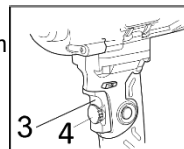

Fig. 4
1. To start the drill, gently squeeze the trigger switch (3) (Fig. 4).
This feature enables you to pre-set the tool for a desired RPM when using the “Lock-On” button feature. The tool speed is adjusted by rotating the “speed control” dial (4) (Fig. 4) clockwise to increase the speed and counterclockwise to decrease the speed. Once you have set the speed you desire, when the switch is completely depressed and the “Lock-On” button engaged, the tool speed will change to the speed you dialed in. To Pre-set a desired RPM, pull the switch back completely and engage the “Lock-On” button. Maintain a firm grasp on the running drill with one hand and use your free hand to rotate the “speed control” clockwise or counterclockwise until the desired drill speed is reached. Then pull the switch back and release it to disengage the “Lock-On” feature. Once you’ve dialed in the desired drill speed, when you start the drill and engage the switch “Lock-On” button the drill will change to the speed you set with the “speed control” dial.